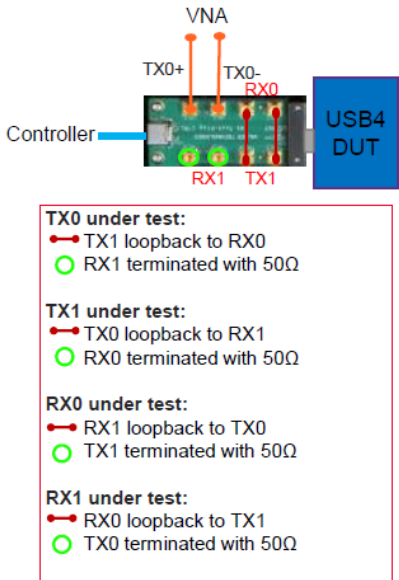

Figure 75 SMP test fixture - Tx/Rx lane switching
- 8 In case of SMP test fixture, Tx/Rx lane under test can be switched as shown in Figure 75.